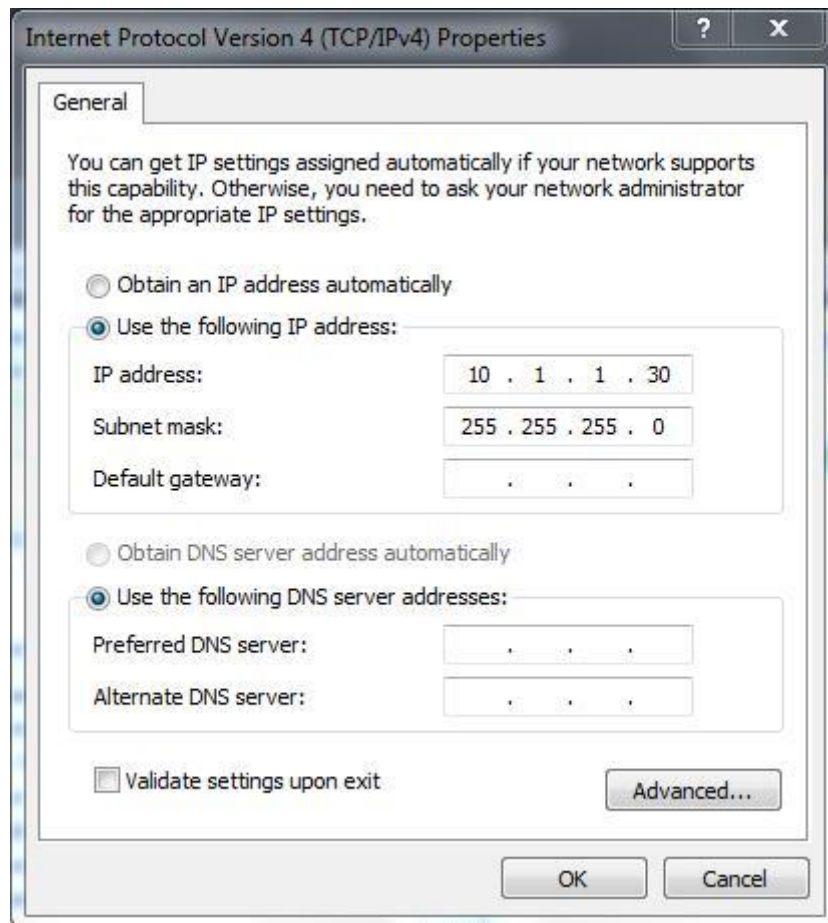

Figure 6.12 – The TCP/IPv4 Properties Dialog
4. In the *General* tab, select *Use the following IP Address* (Refer to Figure 6.12).